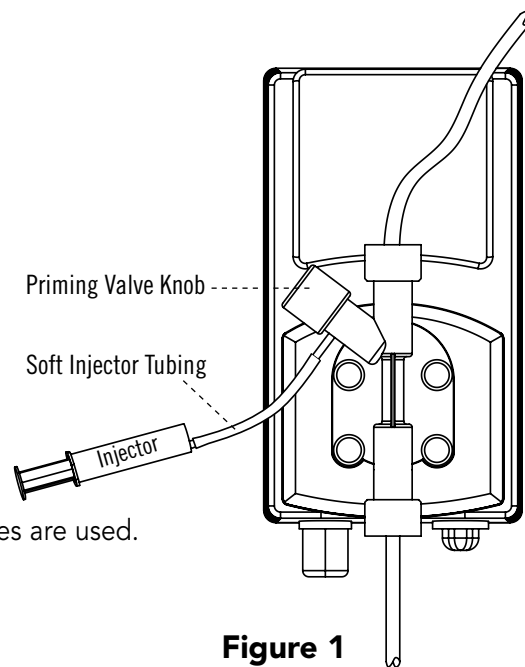

Figure 1
2. Insert a short piece of soft injector tube onto the tip of the injector (see Fig. 1).
3. Insert the open end of the injector tube onto the pressure valve (see Fig. 1).